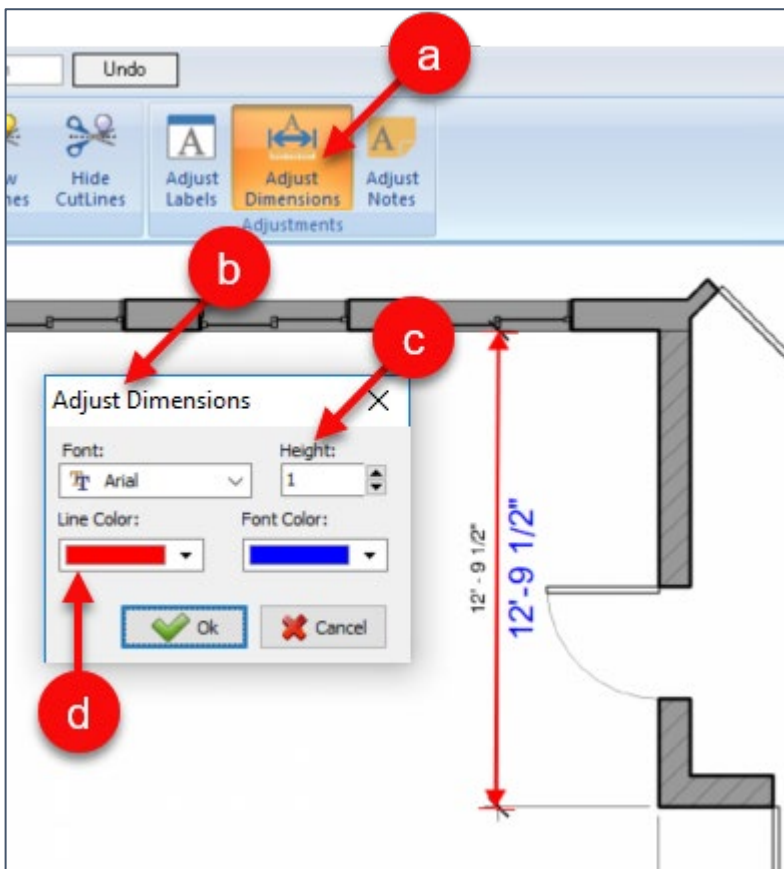

Figure 49-E
3. The **Adjust Label** button changes the properties of all labels on a page (Fig. 49-F). To change the properties of a label: